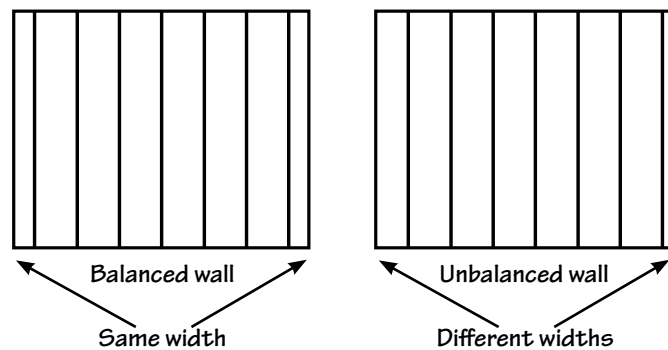

Figure 58.
- To create a balanced appearance (Fig. 58), divide the length of the wall by the exposure of the vertical panel to be used. For example, if the wall requires 20 full panels plus an additional 8" (203mm), then the first and last pieces installed would be cut to a new width of 4" (102mm). Make sure to allow for proper depth in the receiving channels of the accessories at both ends when measuring.
For application of vertical siding to gables, use the same method described on page 30 (Fig. 58) for a balanced appearance.